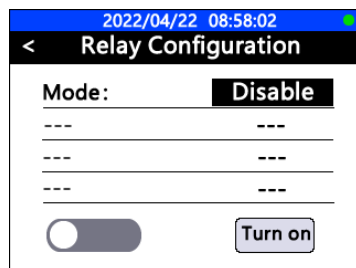

Figure 5. Relay Configuration
2. Press the **OK** key to highlight the mode field (highlighted field is black), then press **OK** to enter edit mode (edit mode is blue), press ▲ or ▼ to select manual mode (Figure 5).